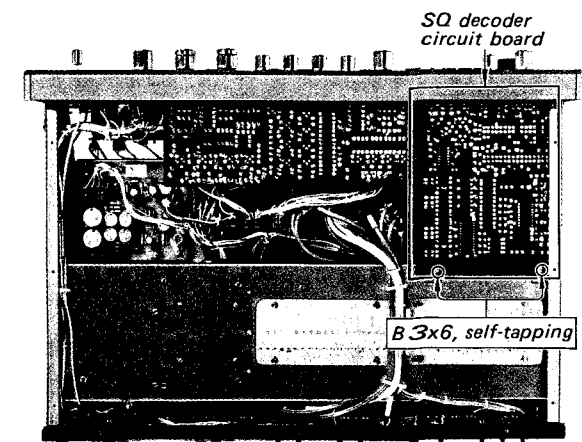

Fig. 2-4. Front subchassis removal
4. Remove the two self-tapping screws (B 3x6) securing the SQ decoder circuit board to the chassis as shown in Fig. 2-4.